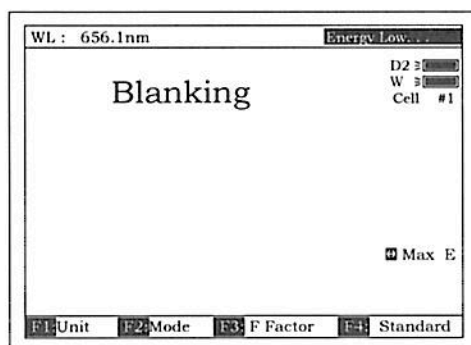
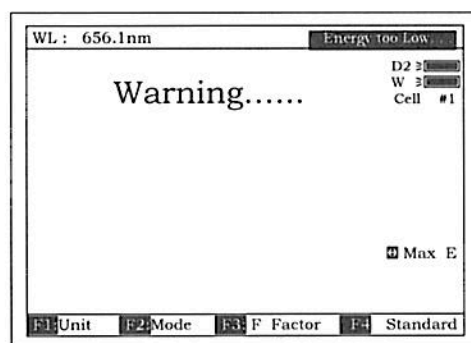

Fig 8
Fig 9
**Note 1.** If the reference solution is too thick, "Energy Low..." will appear following the "Blanking..." on the screen (Fig 8). If "Energy too Low..." appears following the "Blanking...", the test will be paused and "Warning..." will appear on the screen. (Fig 9).
2. If no automatic changer installed "cell #1" and "Max E" will disappear in Fig8